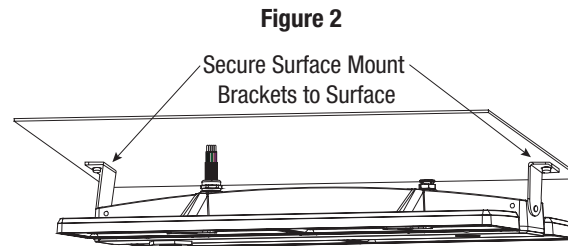

Figure 2
2. Securely attach the Suspended Chains to the ceiling then attach chains into the luminaire hooks (**Figure 2**).
2. Pre-drill holes for the mounting bolts and securely attach the luminaire to the surface (**Figure 2**).